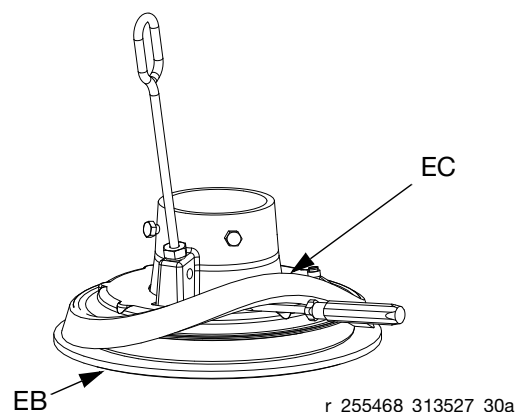

FIG. 16
2. *Working from the bottom*, use screwdriver to pry spacer (EC) loose. Work spacer upward completely above the flange of the platen. See FIG. 16.